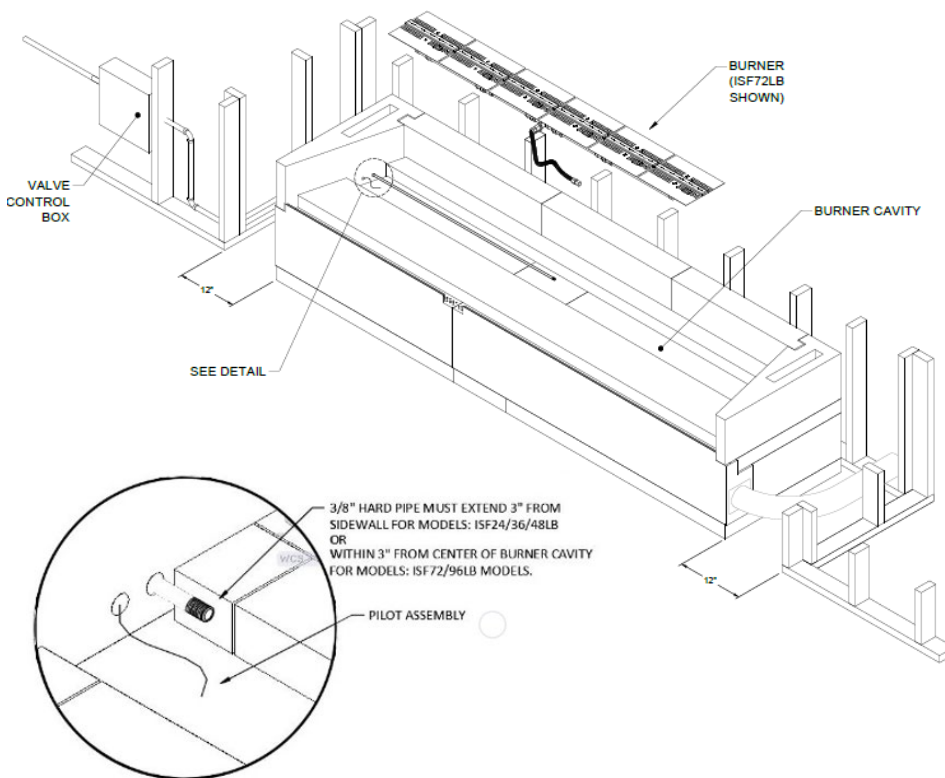

FIGURE 63
- 4) The 48" and 72" Maximus Linear fireplaces (82L48 & 82L72) will require the ISF36/60LB (respectively): Gas supply piping for these models shall terminate not less than 3" from sidewall. (Figure 63)
- 5) The 96" and 120" Maximus Linear fireplaces (82L96 & 82L120) will require the ISF72/96LB (respectively): Gas supply stub piping for these models shall terminate within 3" from center of the cavity. (Figure 63)